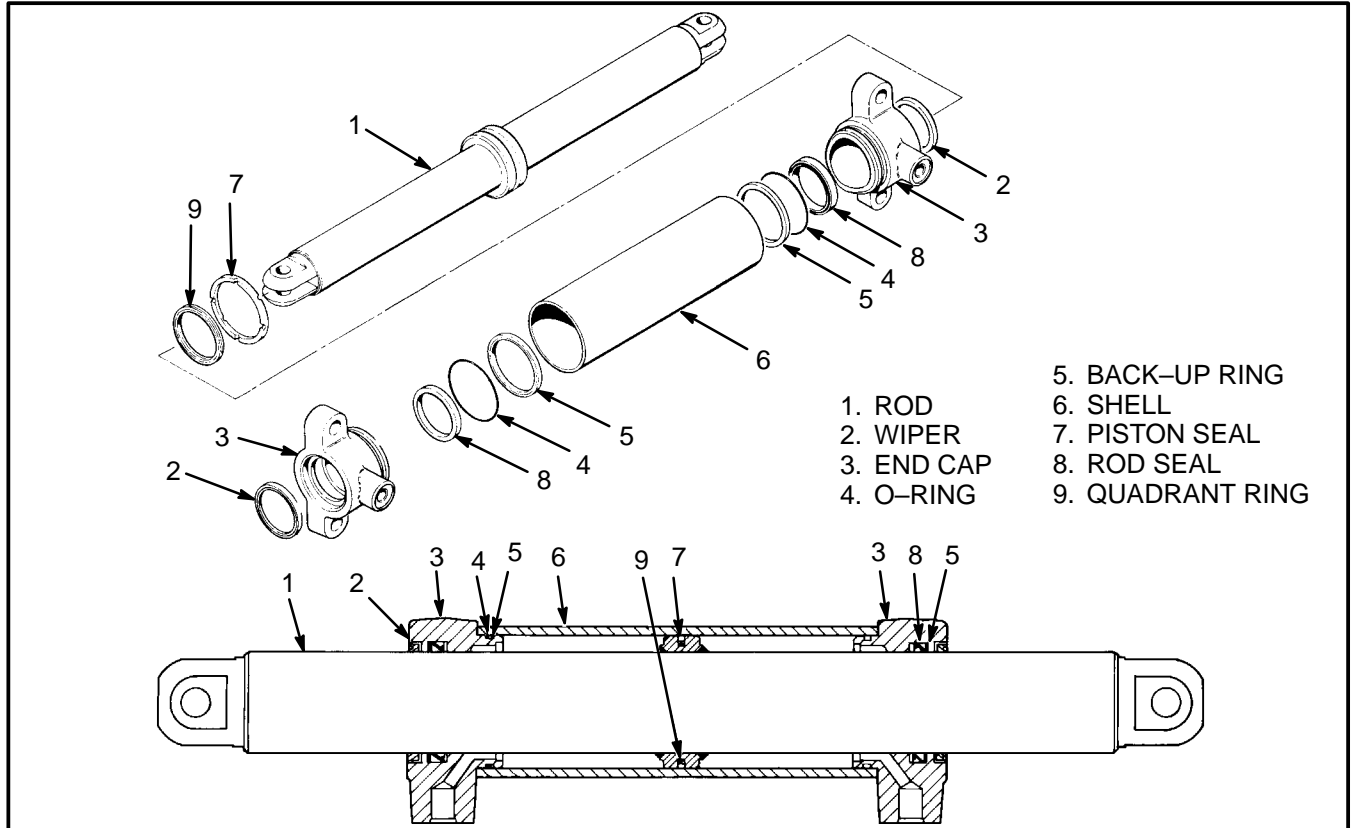

FIGURE 4. STEERING CYLINDER
### Removal And Disassembly (See FIGURE 4.)
### Assembly and Installation (See FIGURE 4.)
1. Put the seals and wipers in warm hydraulic oil. Install the quadrant ring and piston seal as shown in FIGURE 4.